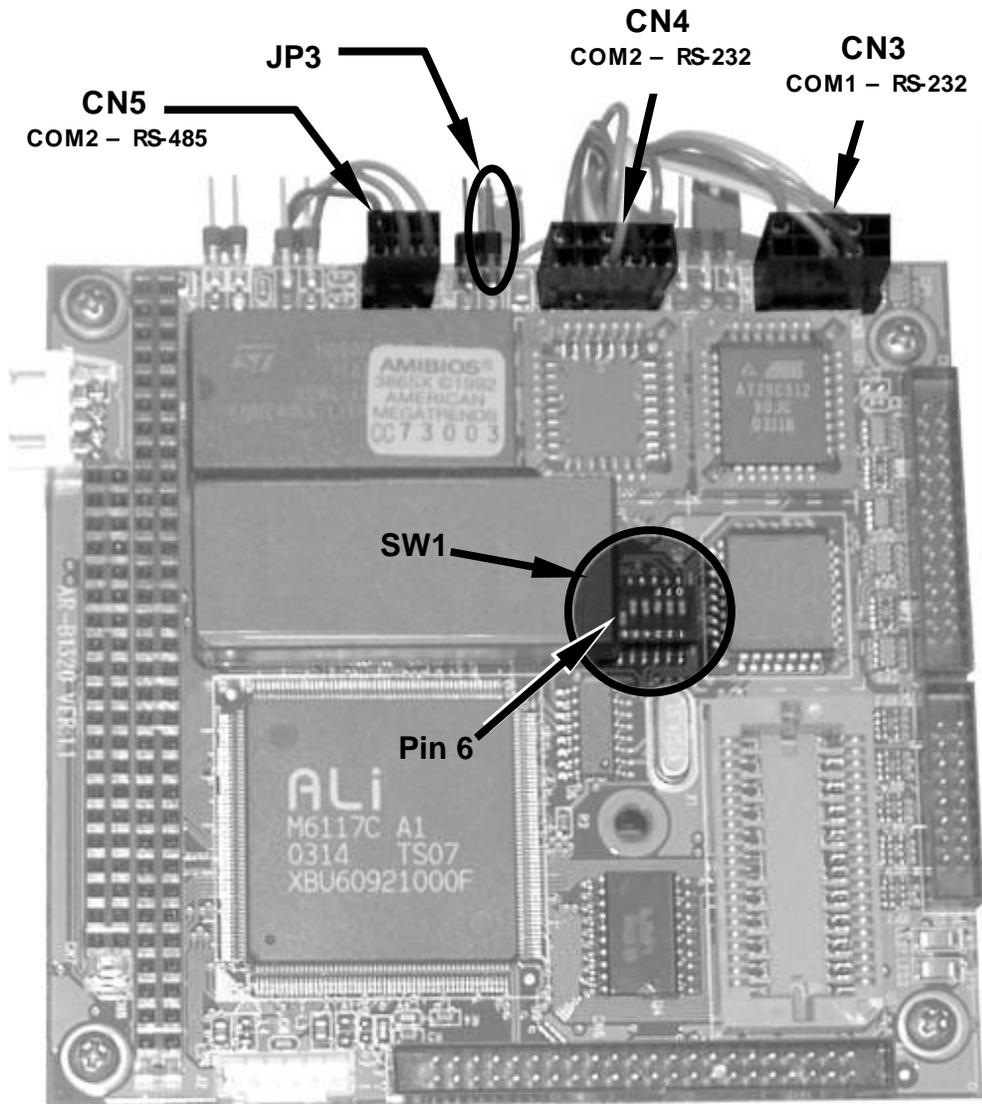

Figure 6-9: CPU card Locations of RS-232/486 Switches, Connectors and Jumpers
- To reconfigure COM2 as an RS-285 port set switch 6 of SW1 to the ON position(see Figure 6-9).
- The RS-485 port can be configured with or without a 150 Ω termination resistor. To include the resistor, install jumper at position JP3 on the CPU board (see Figure 6-9). To configure COM2 as an un-terminated RS-485 port leave JP3 open.
The RS-232 multidrop consists of a printed circuit assembly that plugs onto the CN3, CN4, and CN5 connectors of the CPU card (see Figure 6-9) and the cabling to connect it to the analyzer's motherboard. This PCA includes all circuitry required to enable your analyzer for multidrop operation. It converts the instrument's COM1 port to multidrop configuration allowing up to eight analyzers to be connected the same I/O port of the host computer.